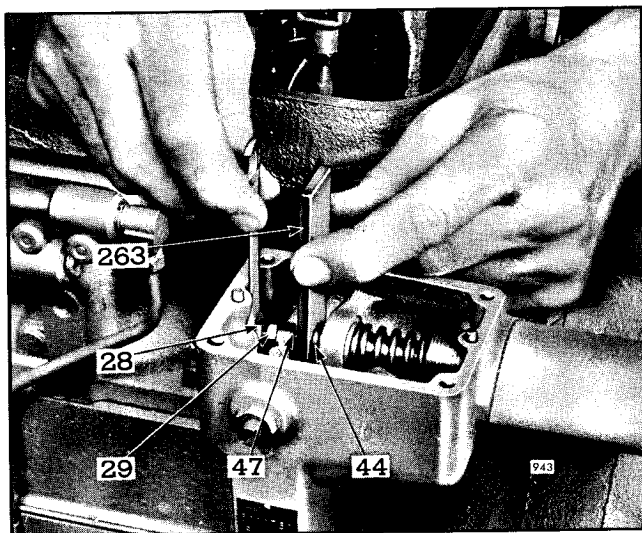

Fig. 1 - Adjusting Governor Gap - With Tool J 5407
5. Using a .170" gap gage, tool J 5407, as shown in Fig. 1, check the gap between the low speed spring cap (47) and the high speed spring plunger (44).
6. If required, loosen lock nut (29) and turn gap adjusting screw (28) until a slight drag is felt on gage.